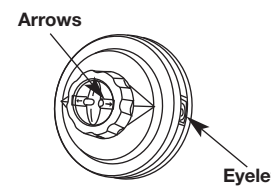

Fig. 30
1. Align the arrows on the bump knob with the spool cover eyelets, if they are not already (Fig. 30).